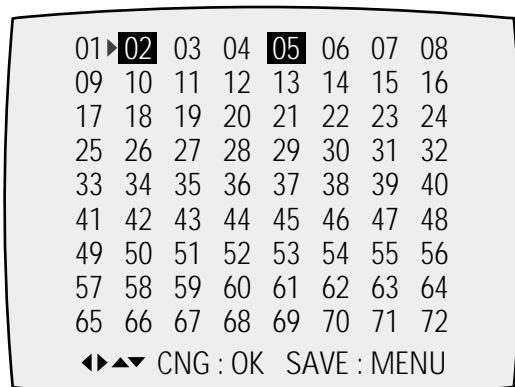

Fig. 5-14
- 2) Press the "MENU" button on the remote control about 5 seconds then option setting display is appeared. (See Fig. 5-14)
(If "OK" button is pressed, the selected number is changes reversed color. ; See Fig. 5-14)